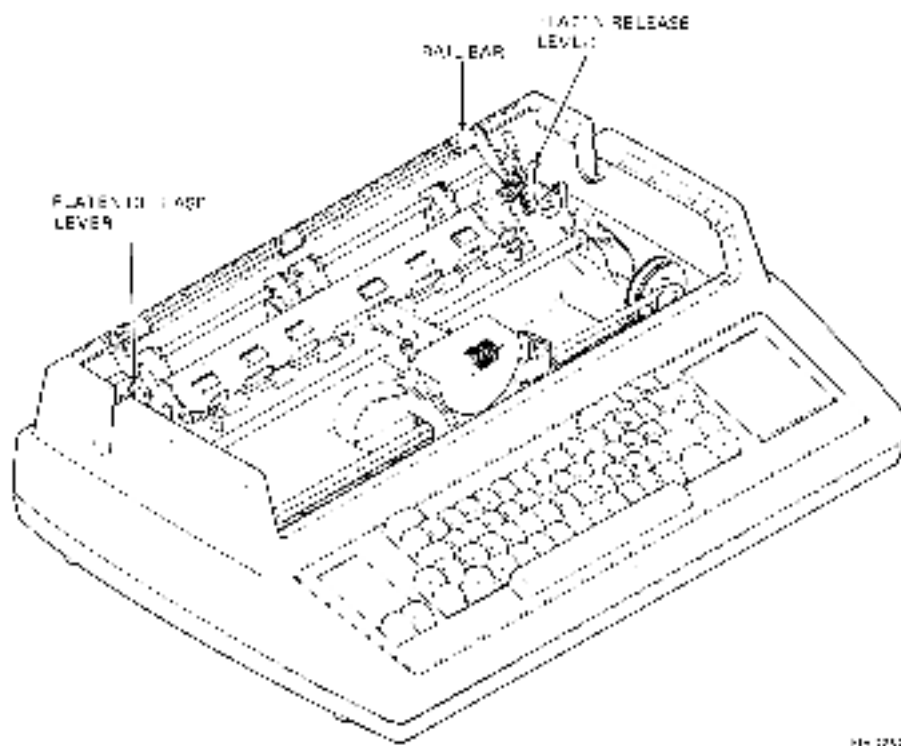

Figure 2-7 Platen Removal
3. Lift the bail bar to gain access to the platen (Figure 2-7). Press the two platen release levers and lift the platen straight up.
3. Lift the bail bar to gain access to the platen (Figure 2-7). Press the two platen release levers and lift the platen straight up. Lower the bail bar to its original position.